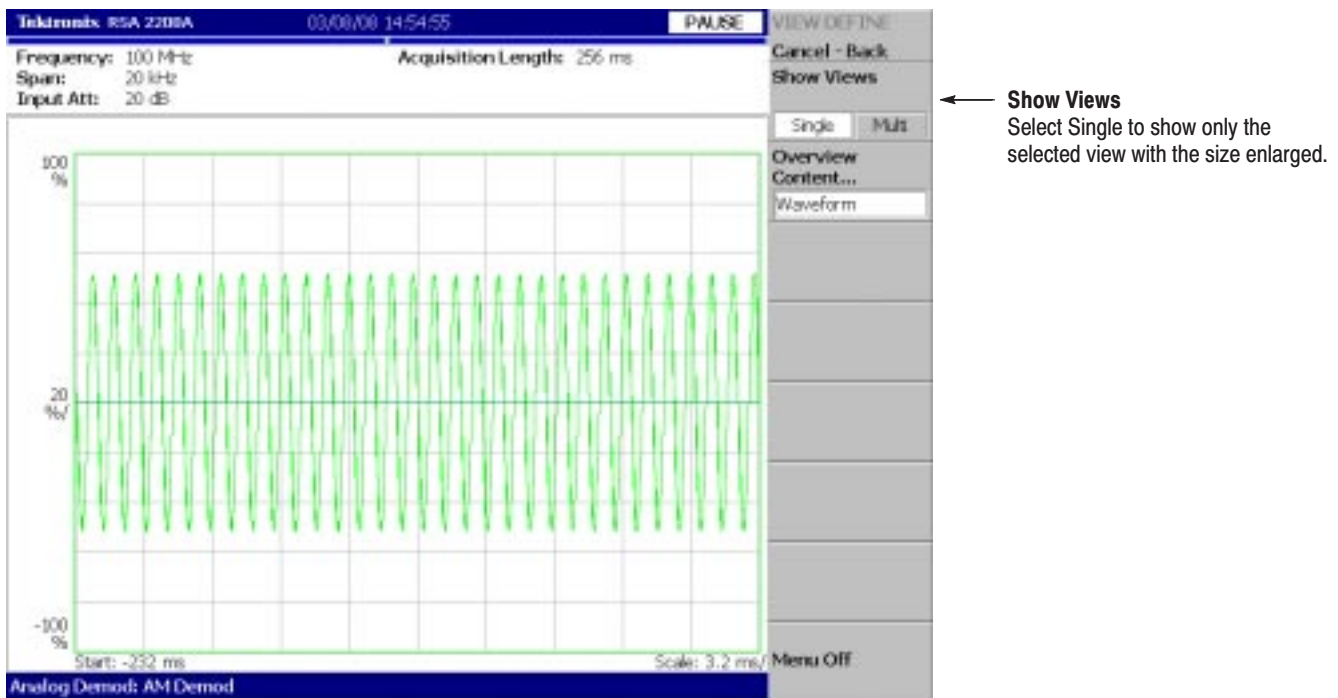

Figure 2–36: Single view display
3. Press the **DEFINE** key, and then the **Show Views** side key, shown in Figure 2–36, to select **Single**.